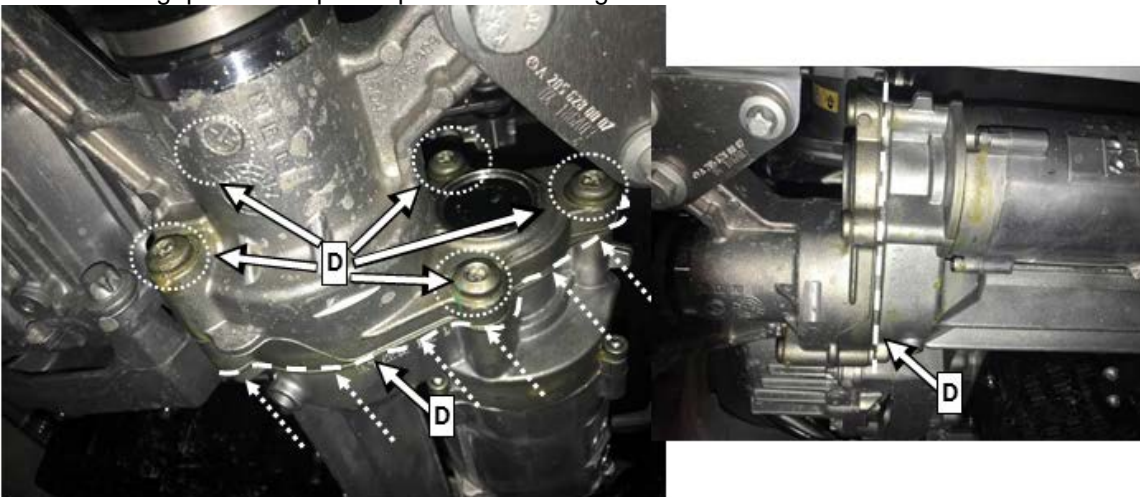

Figure 3
5. After replacing the screws, apply a generous coat of wax to the area (**D**, Figure 3) around the screw heads, screw ends, and the gap between the power-pack and the steering.
3. After replacing the screws, apply a generous coat of wax to the area (**D, Figure 3**) around the threaded connections and around the gap between the power-pack and the steering.
7. After replacing the screws, apply a generous coat of wax to the area (**D, Figure 3**) around the threaded connections and around the gap between the power-pack and the steering.
- i** To do this, select menu item "**Quick test view – N68 Electric power steering (ES) – Adaptations – Teach-in processes – Reset learned values**".